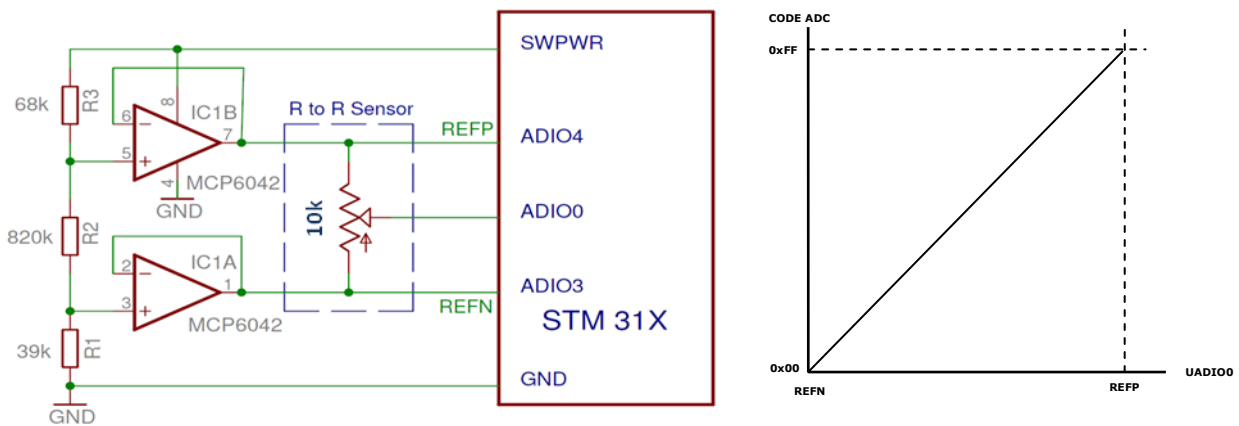
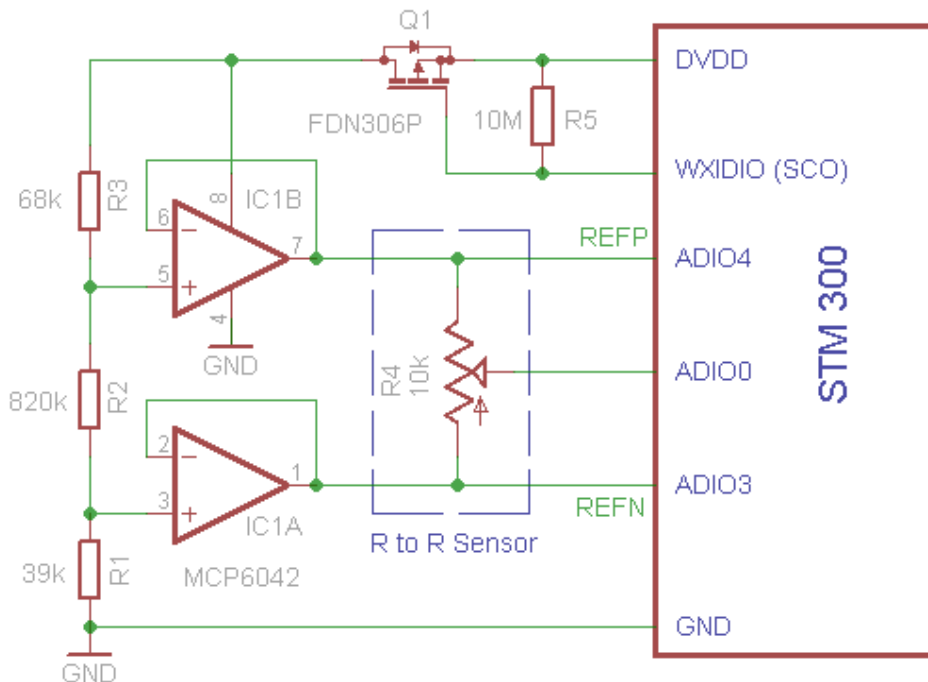

Figure 2 Reference design for STM 31X
Figure 4 Reference design for STM 300
When using STM 300 in an application with Rail To Rail you have to supply the reference design with DVDD. The supply is controlled by the SCO (WXIDIO) pin. See the reference design in Figure 4.
The reference design on Figure 4 is similar to the one described in Chapter 3 on Figure 2. The difference is that STM 300 controls the circuit by the WXIDIO pin – SCO. Please see for circuit description Chapter 3.
1. Use the reference design as presented on Figure 4.